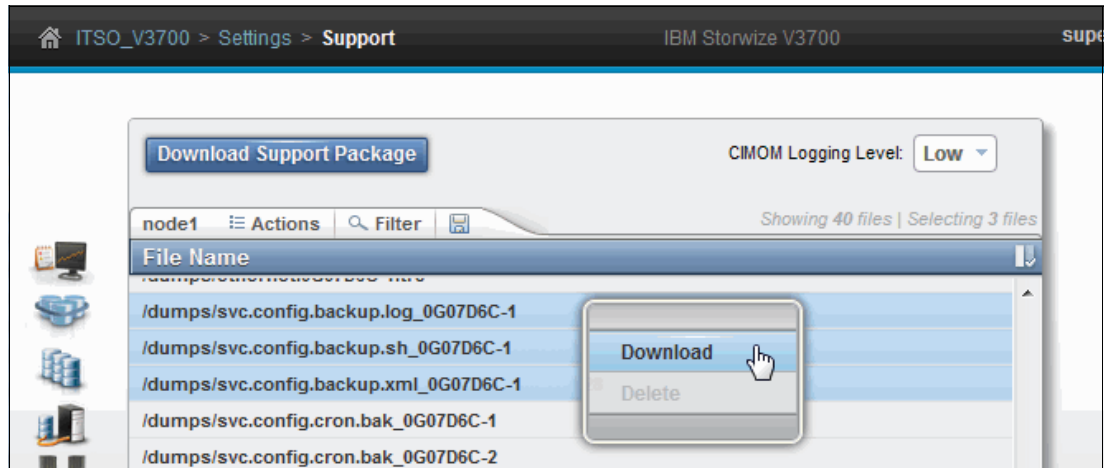

Figure 11-22 Configuration backup: Download
4. Select the files, right-click, and select **Download**, as shown in Figure 11-22.